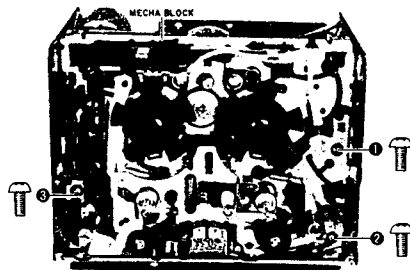

Fig. 3-7
- 3) Remove motor block securing screws **1**, **2** and **3** from the mechanism block's front side. Remove the motor block from the mechanism block (Refer to Fig. 3-7.)